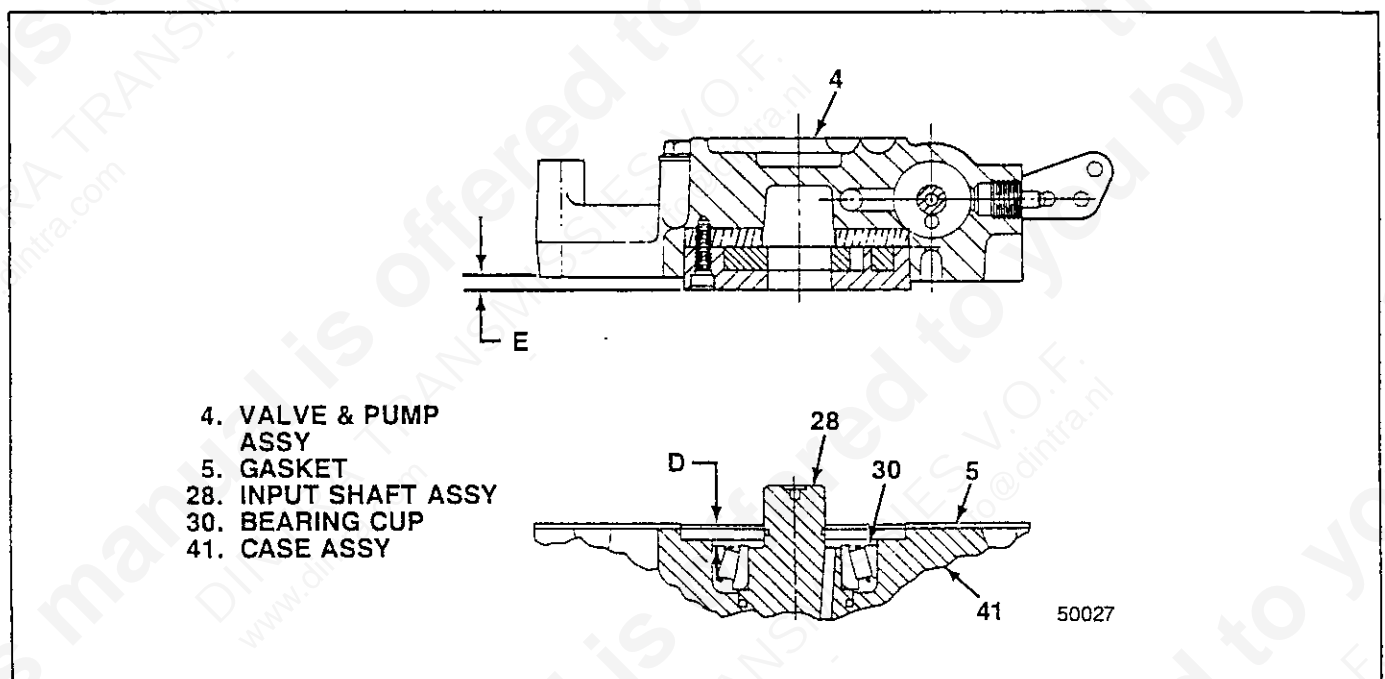

Figure 5-22. Determining Input Shaft Bearing Shim Thickness
b. Measure and record dimension C as shown in figure 5-22 [from top face of gasket (5) to top face of bearing cup (30)].
c. Calculate T_1 , the thickness of shim(s) (6) required at intermediate shaft bearing, as follows:
d. Select shim(s) of thickness $T_1 \pm 0.0010 \text{ in. } (\pm 0.025 \text{ mm})$ and install on face of bearing cup (30) at intermediate shaft. Install thinnest shim(s) down against bearing cup, thickest shim(s) up to bear against valve and pump assembly (4) when installed.
2. With gasket (5) in position on pump mounting face of case assembly (41), determine thickness of shim(s) (6) to be used at input shaft bearing as follows:
a. Push down firmly on input shaft assembly (28) and bearing cup (30) (see figure 5-22) to make sure parts are seated.
b. Measure and record dimension D as shown in figure 5-22 [from top face of gasket (5) to top face of bearing cup (30)].
c. On valve and pump assembly (4), measure and record dimension E as shown in figure 5-22.
d. Calculate T_2 , the thickness of shim(s) (6) required at input shaft bearing, as follows: